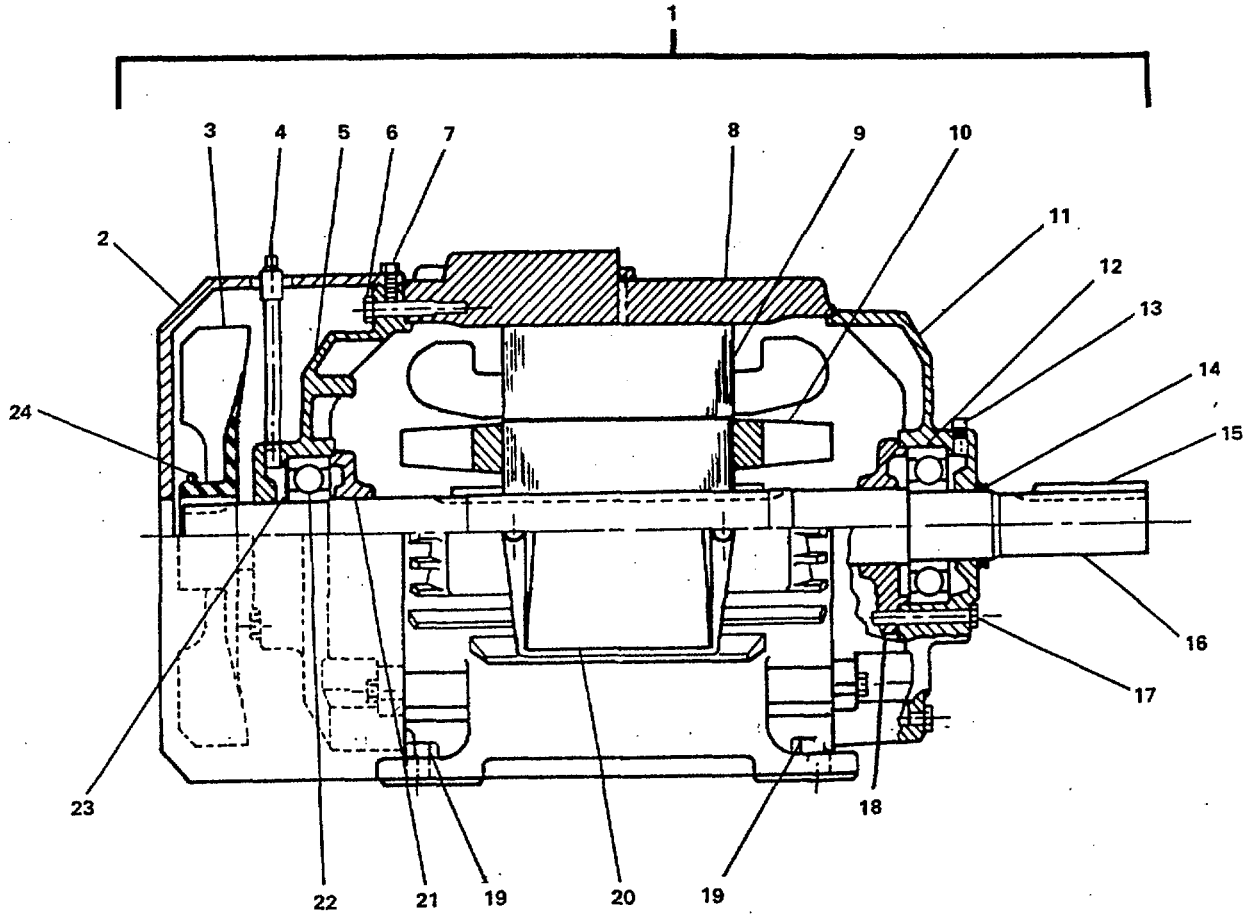

Figure 3-9 . *Alternating Current Motor (SF #3)* .
- f. Connect the vane section (4) to main body of fan unit (1) with mounting hardware (2, 3).
- a. Install fan unit (1) to companion flanges (7) on ducting with mounting hardware (5, 6, 11, 12).
- (1) Turn electrical power ON.
- (2) Start and run fan to check operation.
- (3) Remove "Out of Service" tag from circuit.
**3-18. Repair Motor, Electric, Alternating Current (SF #3). (FIGURE 3-9)**